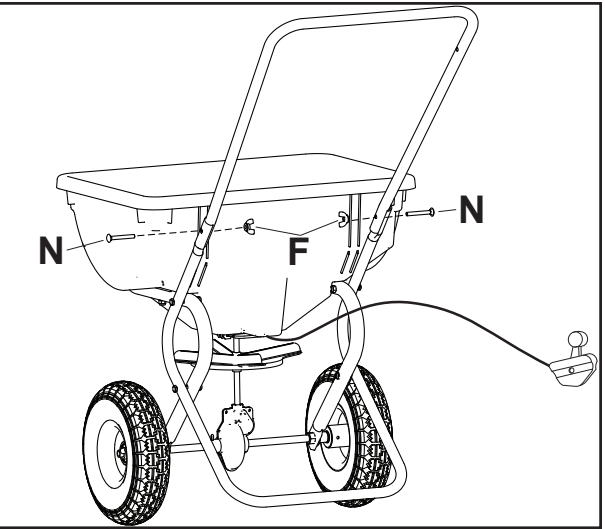

Figure 8
STEP 8 (SEE FIGURE 8): Attach the handle tube to the assembly using two 1/4" x 1-1/4" carriage bolts (N) and two wing nuts (F).